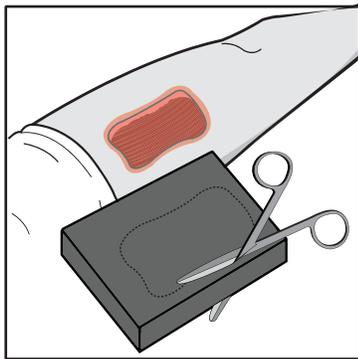

Figure 1
7. Cut the black foam to a size that is appropriate for the wound (**Figure 1**). Document the number of black foam pieces used to fill the wound in the patient's chart.